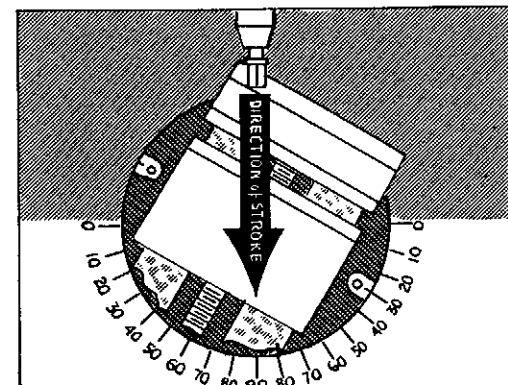

FIG.143
3. Loosen the clamping nuts and move the vise around from the zero position until the zero mark on the vise coincides with the desired degree on the base (Fig. 143).